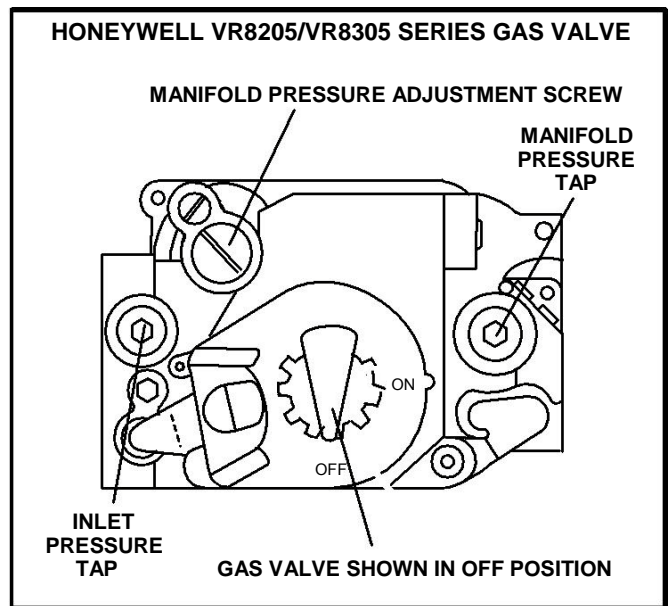

FIGURE 8
GAS VALVE OPERATION FOR HONEYWELL VR8205/VR8305 SERIES GAS VALVE (FIG 8)
- 2 – After line pressure has been checked and adjusted, check regulator pressure. Adjust manifold pressure to values specified on the unit rating plate. See figures 8, 9, and 10 for gas pressure adjustment screw location. A natural gas to LP/propane gas changeover kit is required to convert unit in the field. Refer to installation instructions provided with changeover kit for conversion procedure.